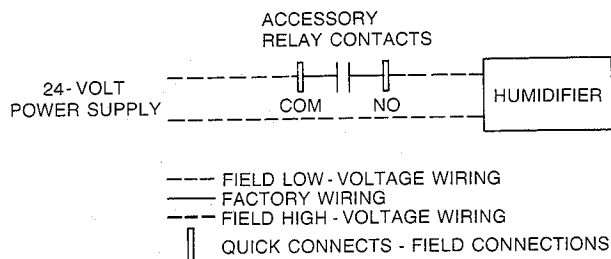

Fig. 14—Humidifier
NOTE: For 24-v accessory hookup, see items 13 through 18 and Fig. 14.